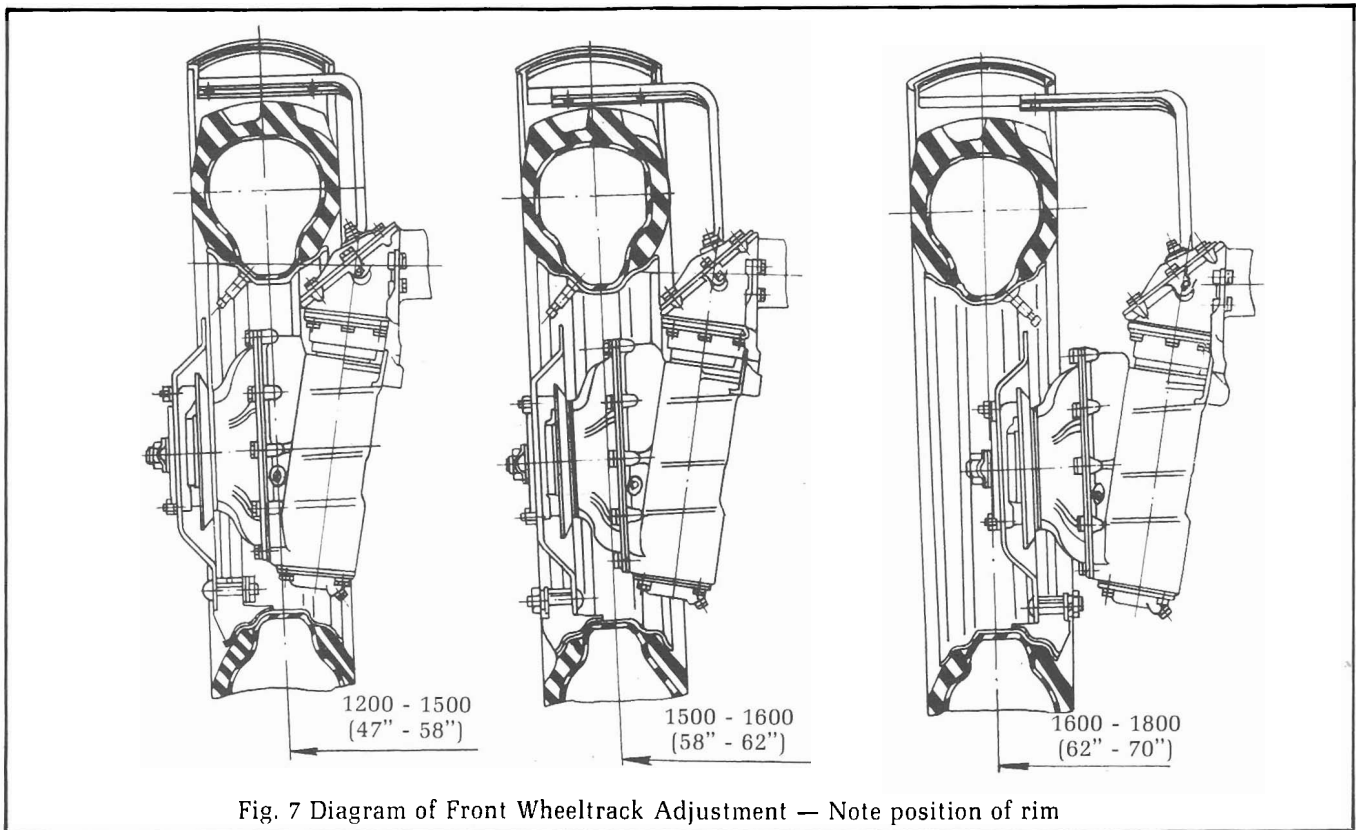

Fig. 7 Diagram of Front Wheeltrack Adjustment — Note position of rim
4. Remove rack and pinion cover and turn pinion until desired tread is obtained with rim in correct position. (See chart Fig. 7)